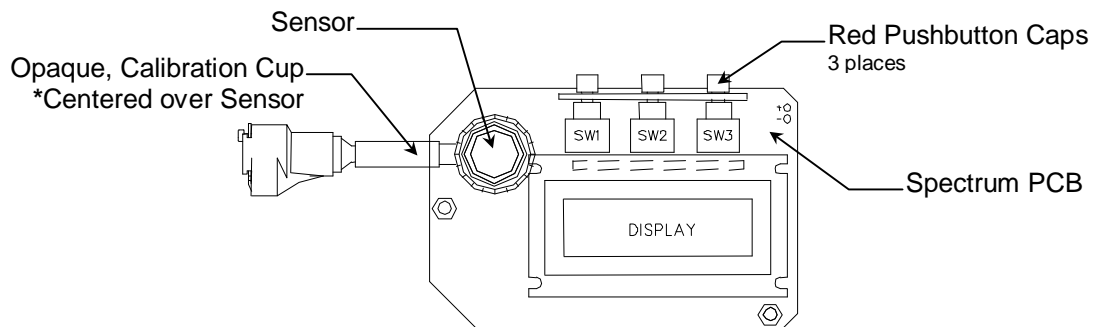

Figure 5: Initial Calibration of Replacement Sensor
NOTE: During this procedure make sure the OPAQUE calibration cup 02552-008 or BLUE 02552-023 stays centered over the sensor. See Figure 5.
***CAUTION:** Having the calibration cup too tight will cause the sensor to become deadheaded resulting in an inaccurate calibration. See Figure 5.